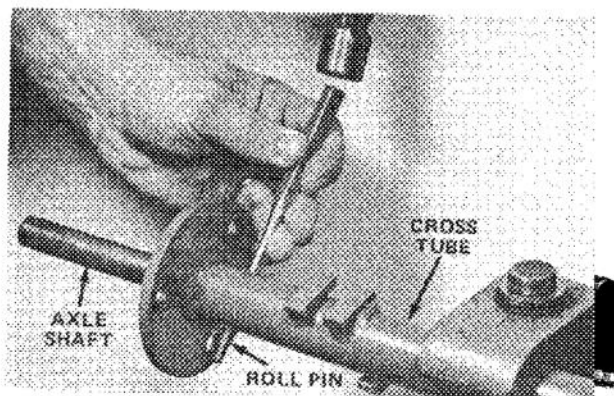

Figure 38
21. To remove axle shaft, use a drift punch and hammer and remove roll pin from cross tube and discard roll pin (Fig. 38). Remove axle shaft from cross tube. To replace bushings, use a long shaft, somewhat smaller in diameter than axle shaft, and drive bushings from opposite ends.